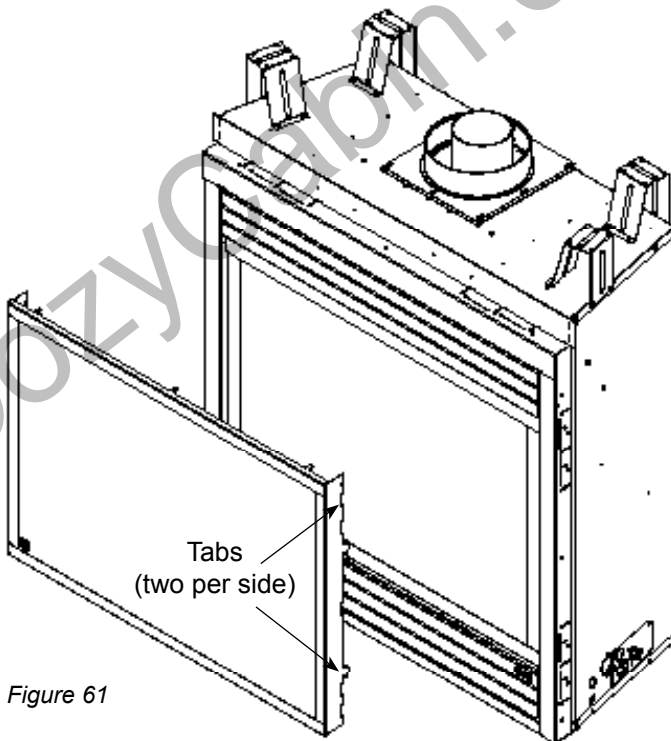
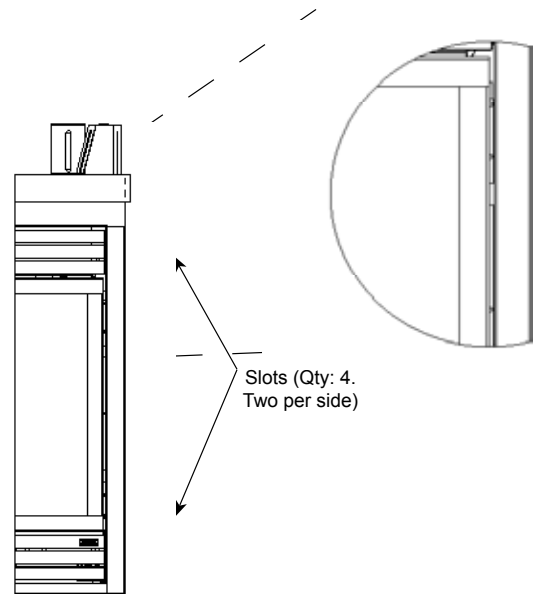

Figure 61
Figure 62
2. Align the four tabs on the sides of the screen frame (two top, two bottom) *Figure 61* with the corresponding slots on the firebox. *Figure 62*.